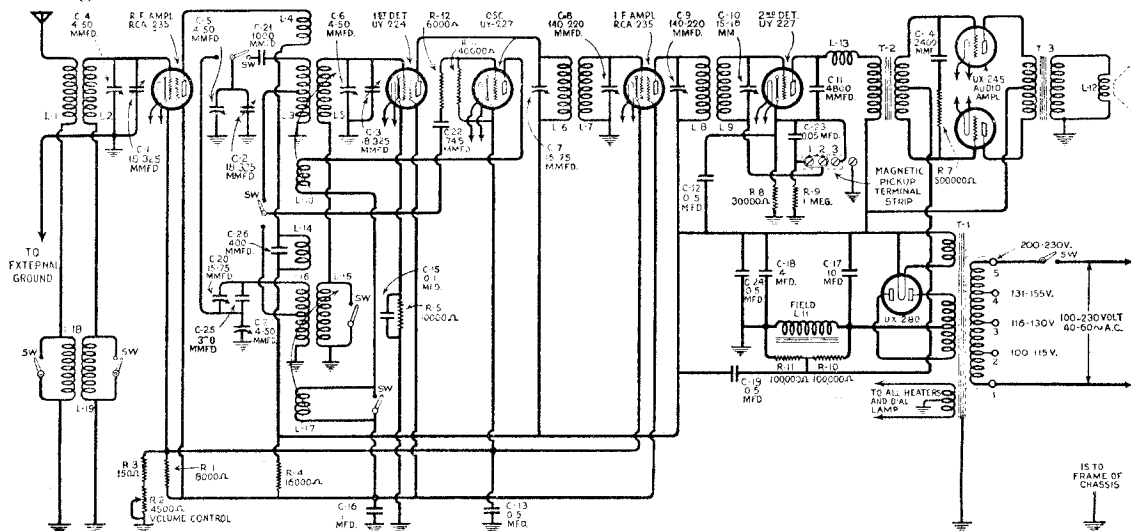
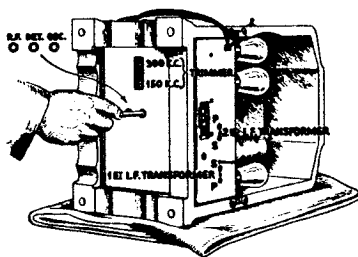
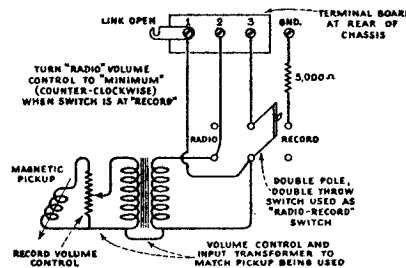

Figure 1—Schematic circuit diagram of R-7-LW
Figure 2—Location of various line-up capacitors
Figure 3—Magnetic Pickup Connections
Figure 1 shows the schematic circuit diagram. Figure 2 shows the location of the various line-up capacitors. Figure 3 gives the correct connections for attaching a magnetic pickup to the R-7-L.W. and Figure 4 shows the wiring diagram. The voltage readings obtained at the Radiotron sockets with one of the usual set analyzers are given on page 3.
- Now adjust the secondary and primary of the second and first I.F. transformers until a maximum reading is obtained in the output meter. See Figure 2. Go through these adjustments a second time as a slight readjustment may be necessary.
- With the socket wrench adjust the oscillator, first detector and R.F. line-up condensers until a maximum deflection is obtained in the output meter. (See Figure 2).
- Set the oscillator at 300 K.C. Set the Selector Switch to the right for the low frequency band and tune in this signal with the receiver. Adjust the Volume control for a deflection in the output meter. Now adjust the 300 K.C. condenser Figure 2 until maximum output has been obtained. Rock the gang condenser back and forth while making this adjustment.
- Set the oscillator at 150 K.C. and repeat as in (f) only adjust the 150 K.C. trimming condenser shown in Figure 2.